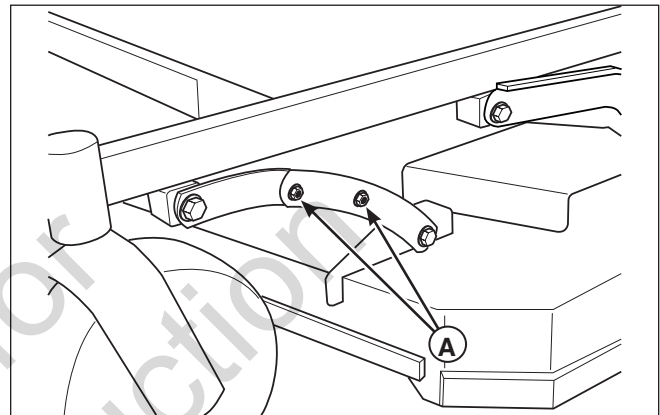

Figure 25. Deck Leveling Adjustment
5. Loosen the deck leveling hardware (A, Figure 25) on both sides of the machine.
9. Tighten the deck leveling hardware (A, Figure 25).